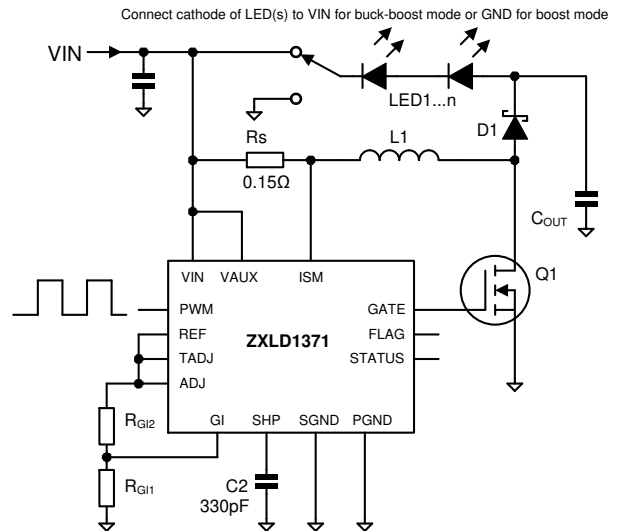

Figure 3. Boost and Buck-boost configuration
b) Boost and Buck-Boost modes – the most simple boost/buck-boost circuit is shown in Figure 3